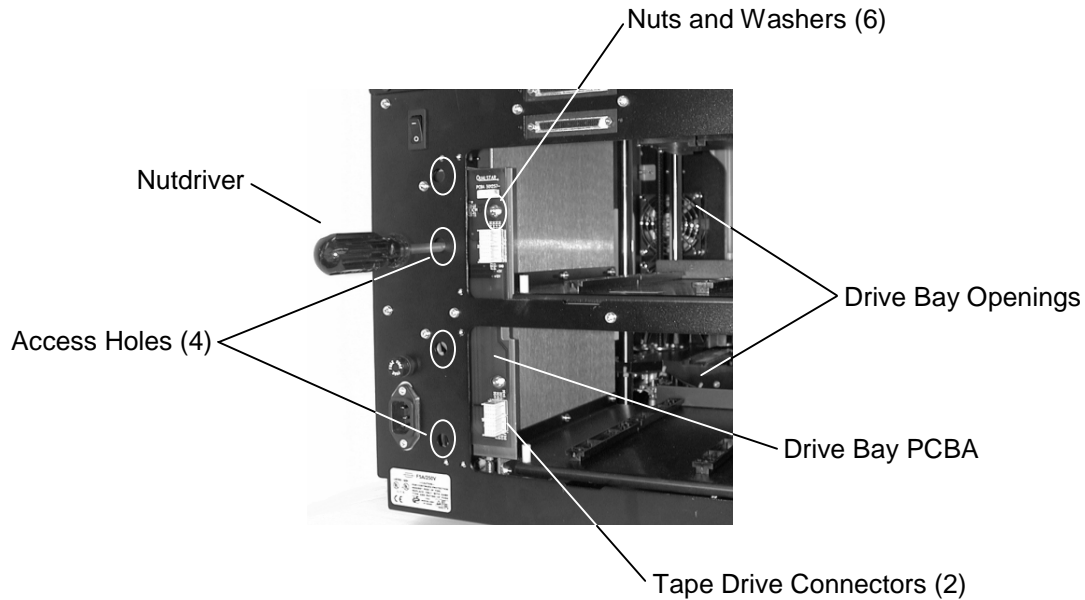

Figure 7-49 82xx Series Drive Bay PCBA
6. Disconnect all the cables from the Drive Bay PCBA (Figure 7-49).
10. Reach through the four access holes in the rear of the TLS with a 1/4-inch nutdriver (a magnetic nutdriver works best) to remove the PCBA mounting nuts (Figure 7-49). Access the remaining two PCBA mounting nuts from the drive bay openings and remove them.
2. Insert the Drive Bay PCBA into the TLS and align its mounting screw holes with the PCBA Mounting Studs (Figure 7-49).
3. Install a washer by hand or with long nose pliers onto a PCBA Mounting Stud, then with a 1/4-inch nutdriver (a magnetic nutdriver works best) thread PCBA Mounting Nuts onto the PCBA Mounting Studs. Reinstall the remaining PCBA Mounting screws the same way (Figure 7-49).
12. Reconnect all the cables to the Drive Bay PCBA (Figure 7-49).